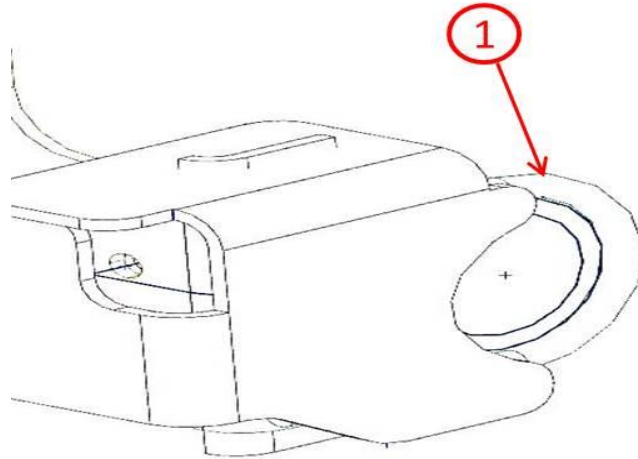

**Fig. 3 Stabilizer Bolt**
12. Reinstall the production stabilizer link on the inside of the bracket reusing the production bolt (1) and nut. Tighten to 108 N·m (80 ft-lbs) (Fig. 3).